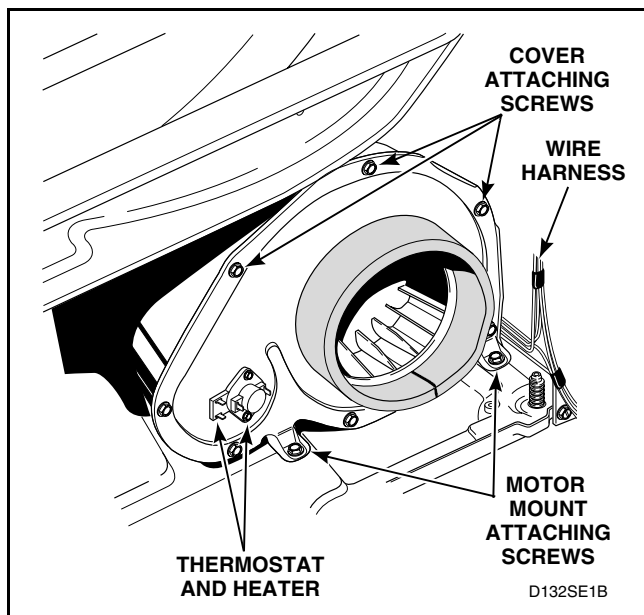
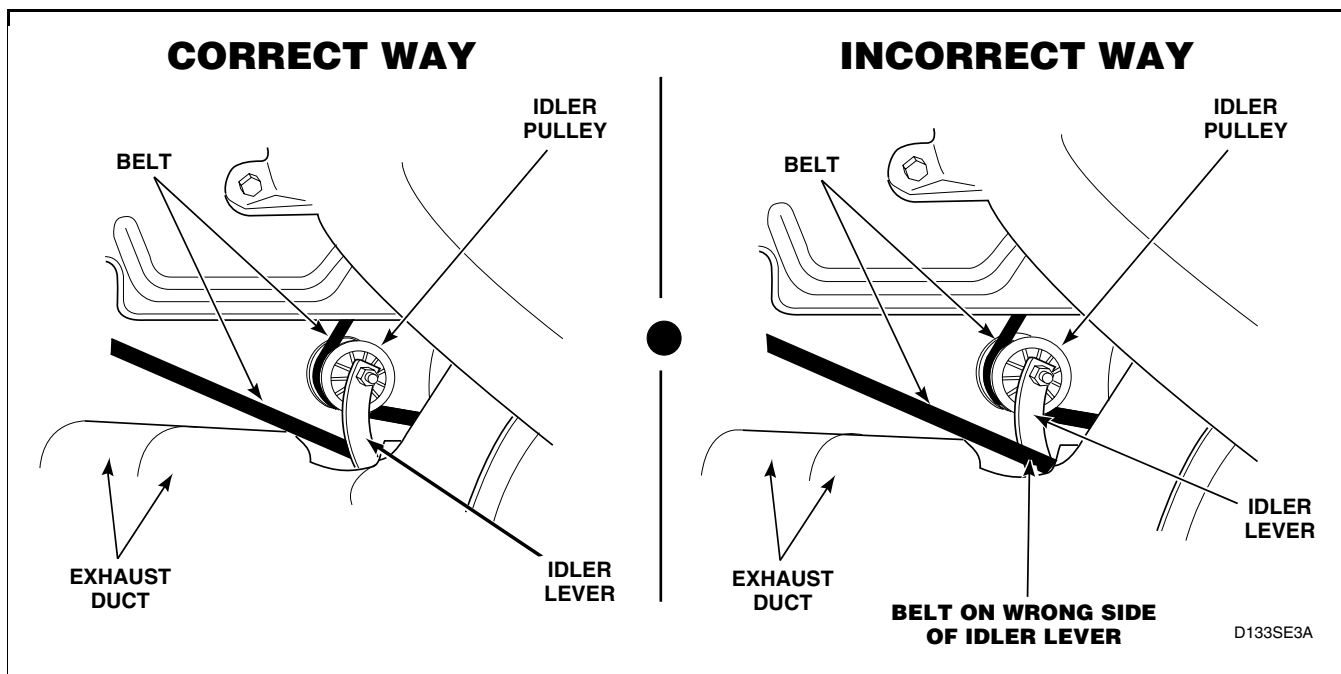
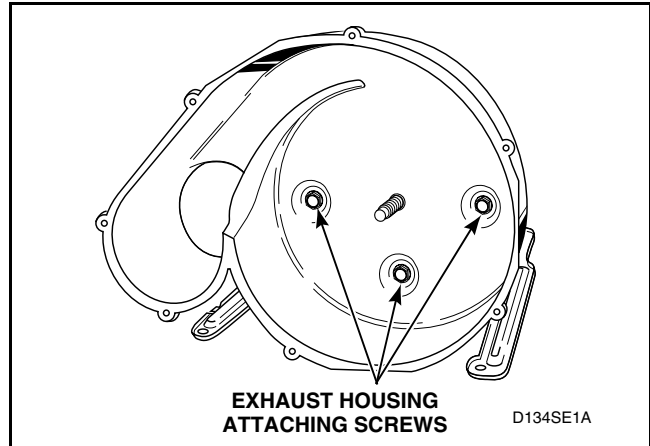

Figure 38
Figure 39
Figure 41
- Disconnect wires from thermostat and heater. Refer to *Figure 38*.
- Remove cylinder belt from idler and motor pulleys. Refer to *Figure 39*.
**NOTE:** When installing belt, make sure belt is properly installed on motor and idler pulleys, and is on the correct side of the idler lever. Refer to *Figure 39*. Belt must be positioned around cylinder approximately three inches ahead of the rear rib on cylinder with the ribbed surface of the belt against the cylinder. Refer to *Figure 47*. After installing belt, manually rotate cylinder counterclockwise to check that belt is properly aligned.
**IMPORTANT:** When reinstalling motor and exhaust assembly, be sure wire harness on right side is clipped to motor mounting bracket and is routed along dryer base (between motor mounting bracket and right side of cabinet). Refer to *Figure 38*. Tab on rear of motor mounting bracket must be slid into slot in dryer base. Make sure the belt has been installed on the correct side of the idler lever. Refer to *Figure 39*.
- (1) Remove screws holding cover to housing. Refer to *Figure 38*.
- (2) Hold motor pulley securely and unthread impeller from motor shaft (right hand thread). Use a 7/8 inch, 6 point socket to aid in the removal of the impeller.
- (3) Remove three screws holding the exhaust housing to the motor mounting bracket. Refer to *Figure 41*.